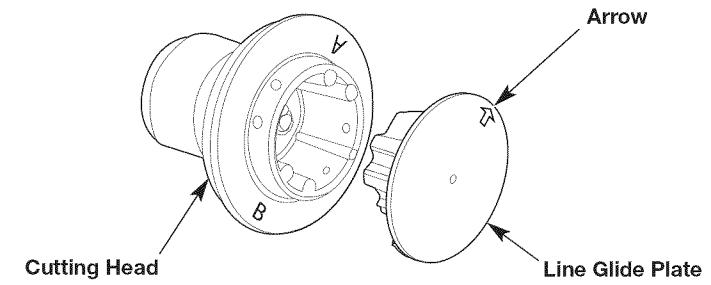

Fig. 16
2. Locate the small hole in the side of the cutting head that holds the black locking tab (Fig. 16). Insert a small Phillips screwdriver and push the locking tab inward. At the same time, pull the line glide plate out of the cutting head.
4. Align the arrow on the line glide plate with the "A" mark on the cutting head (Fig. 16).